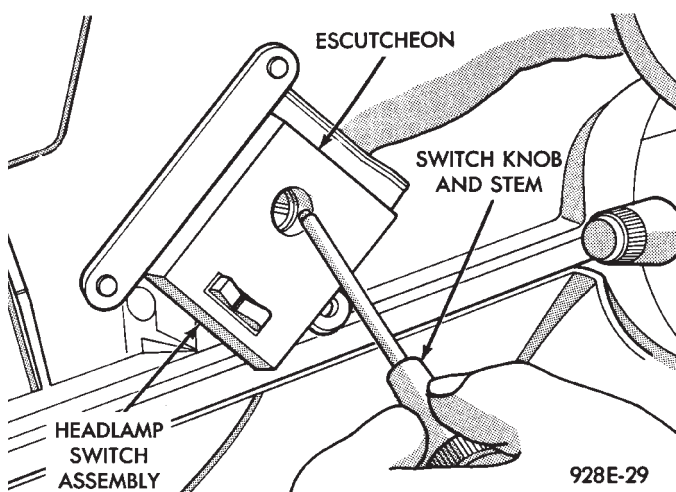
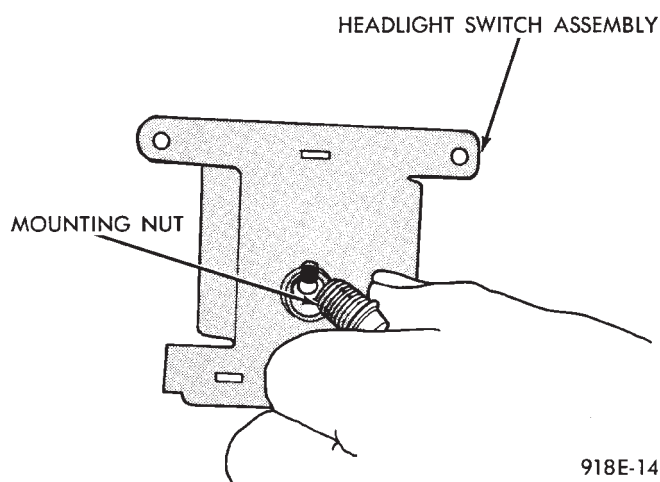

Fig. 43 Headlamp Switch Knob and Stem
Fig. 44 Headlamp Switch Mounting Nut
- (4) Remove knob and stem by depressing button on switch (Fig. 43).
- (5) Snap-out escutcheon.
- (6) Remove foglamp switch from escutcheon.
- (7) Remove nut that attaches headlamp switch to mounting plate (Fig. 44).
- (8) For installation reverse above procedures.